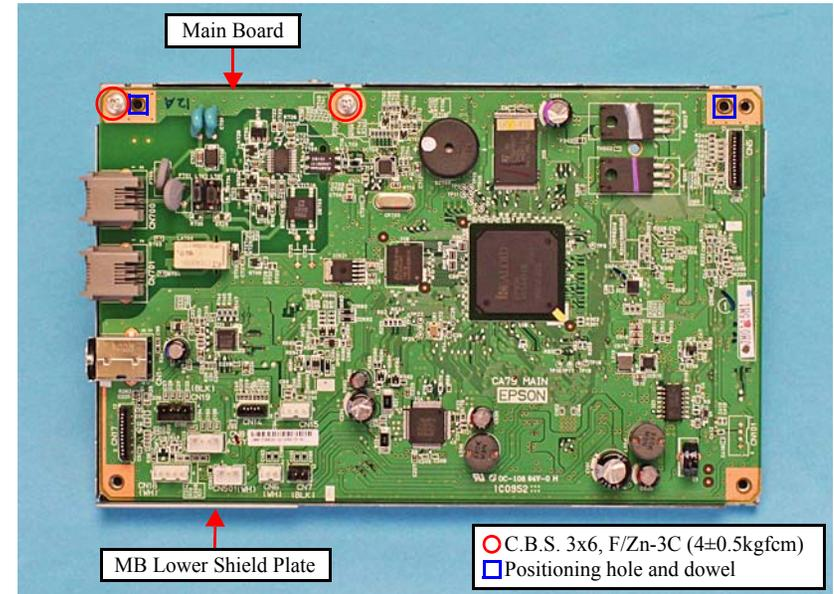

Figure 7-35. Removing the Main Board
- When installing the Main Board to the MB Lower Shield Plate, make sure to match the positioning holes (x2) to the dowels (x2) as shown in Figure. 7-35.